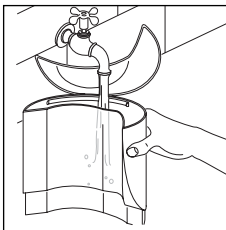

fig. 4
- Fill the tank with fresh, clean water up to the level corresponding to the number of cups of coffee required (Fig. 4).